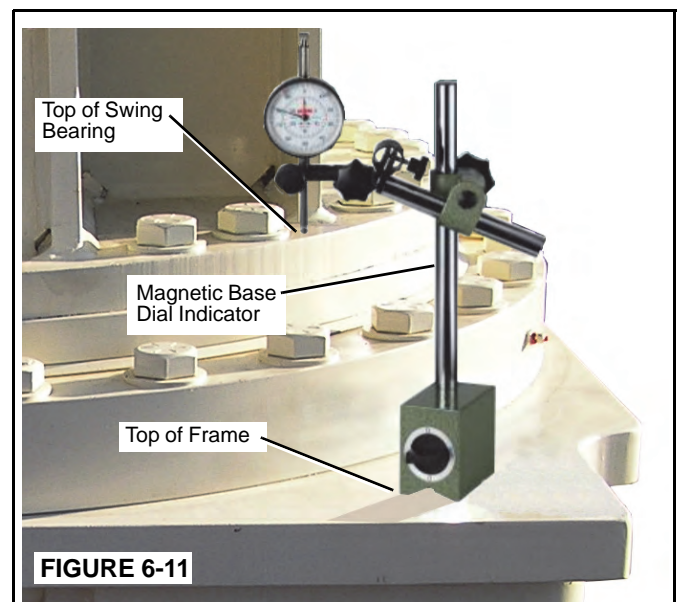

FIGURE 6-11
2. Put a magnetic base dial indicator opposite the boom on the top of the frame (Figure 6-11).
3. Place the dial on the top of the swing bearing (Figure 6-11).